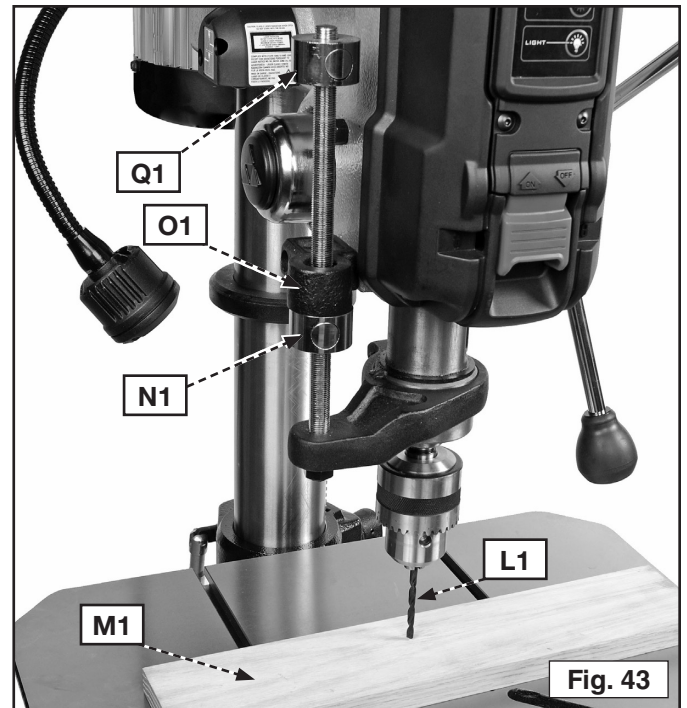

Fig. 43
1. Place bit (L1) in chuck Fig. 43.
2. Lower the bit until it touches workpiece (M1) Fig. 43.
2. Holding the quill at this depth, raise the quill locking nut (N1) Fig. 43 back up against the depth stop bracket.
3. Still holding the spindle, lower the depth stop nut (Q1) Fig. 43 down against depth stop bracket.
4. Lower the quill locking nut (N1) Fig. 43 out of the way.
5. Connect the machine to the power source and drill a test hole to check the adjustment. Readjust, if necessary, by rotating the stop nut (Q1) Fig. 43 for fine adjustment. You do not have to depress the button to rotate the stop nut (Q1).